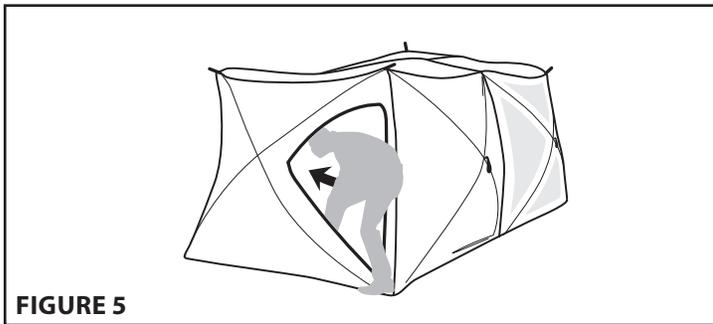

FIGURE 5
- Your tent should now be freestanding. Locate a zippered door and walk inside the tent. Once inside of the tent, place one hand on the bottom of a roof hub and push up until the roof pops into position. [ SEE FIGURES 5 & 6 ]